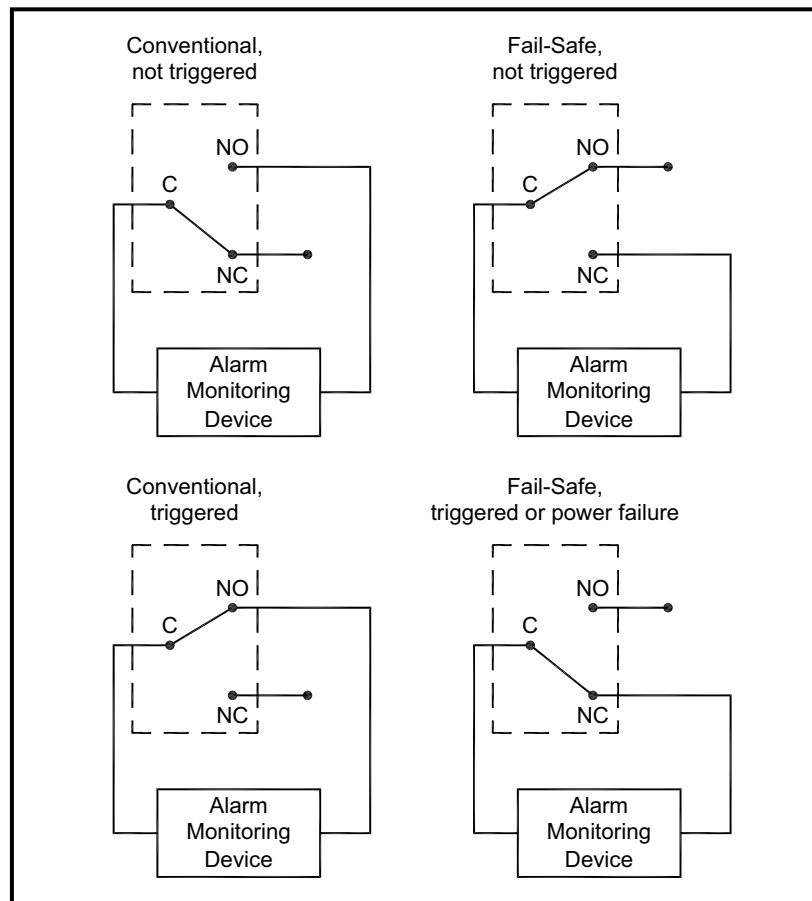
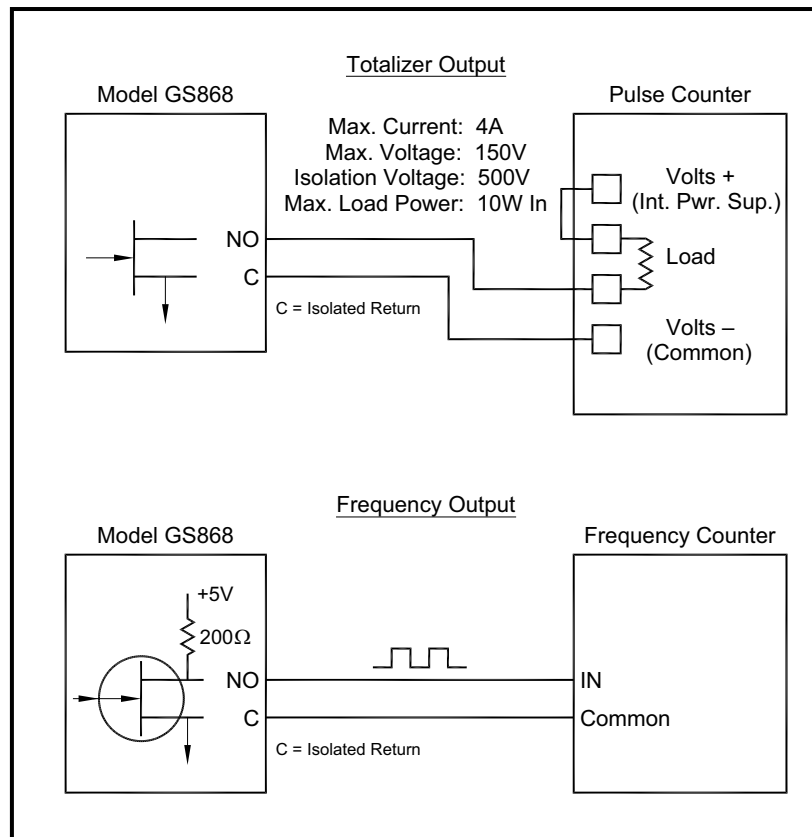
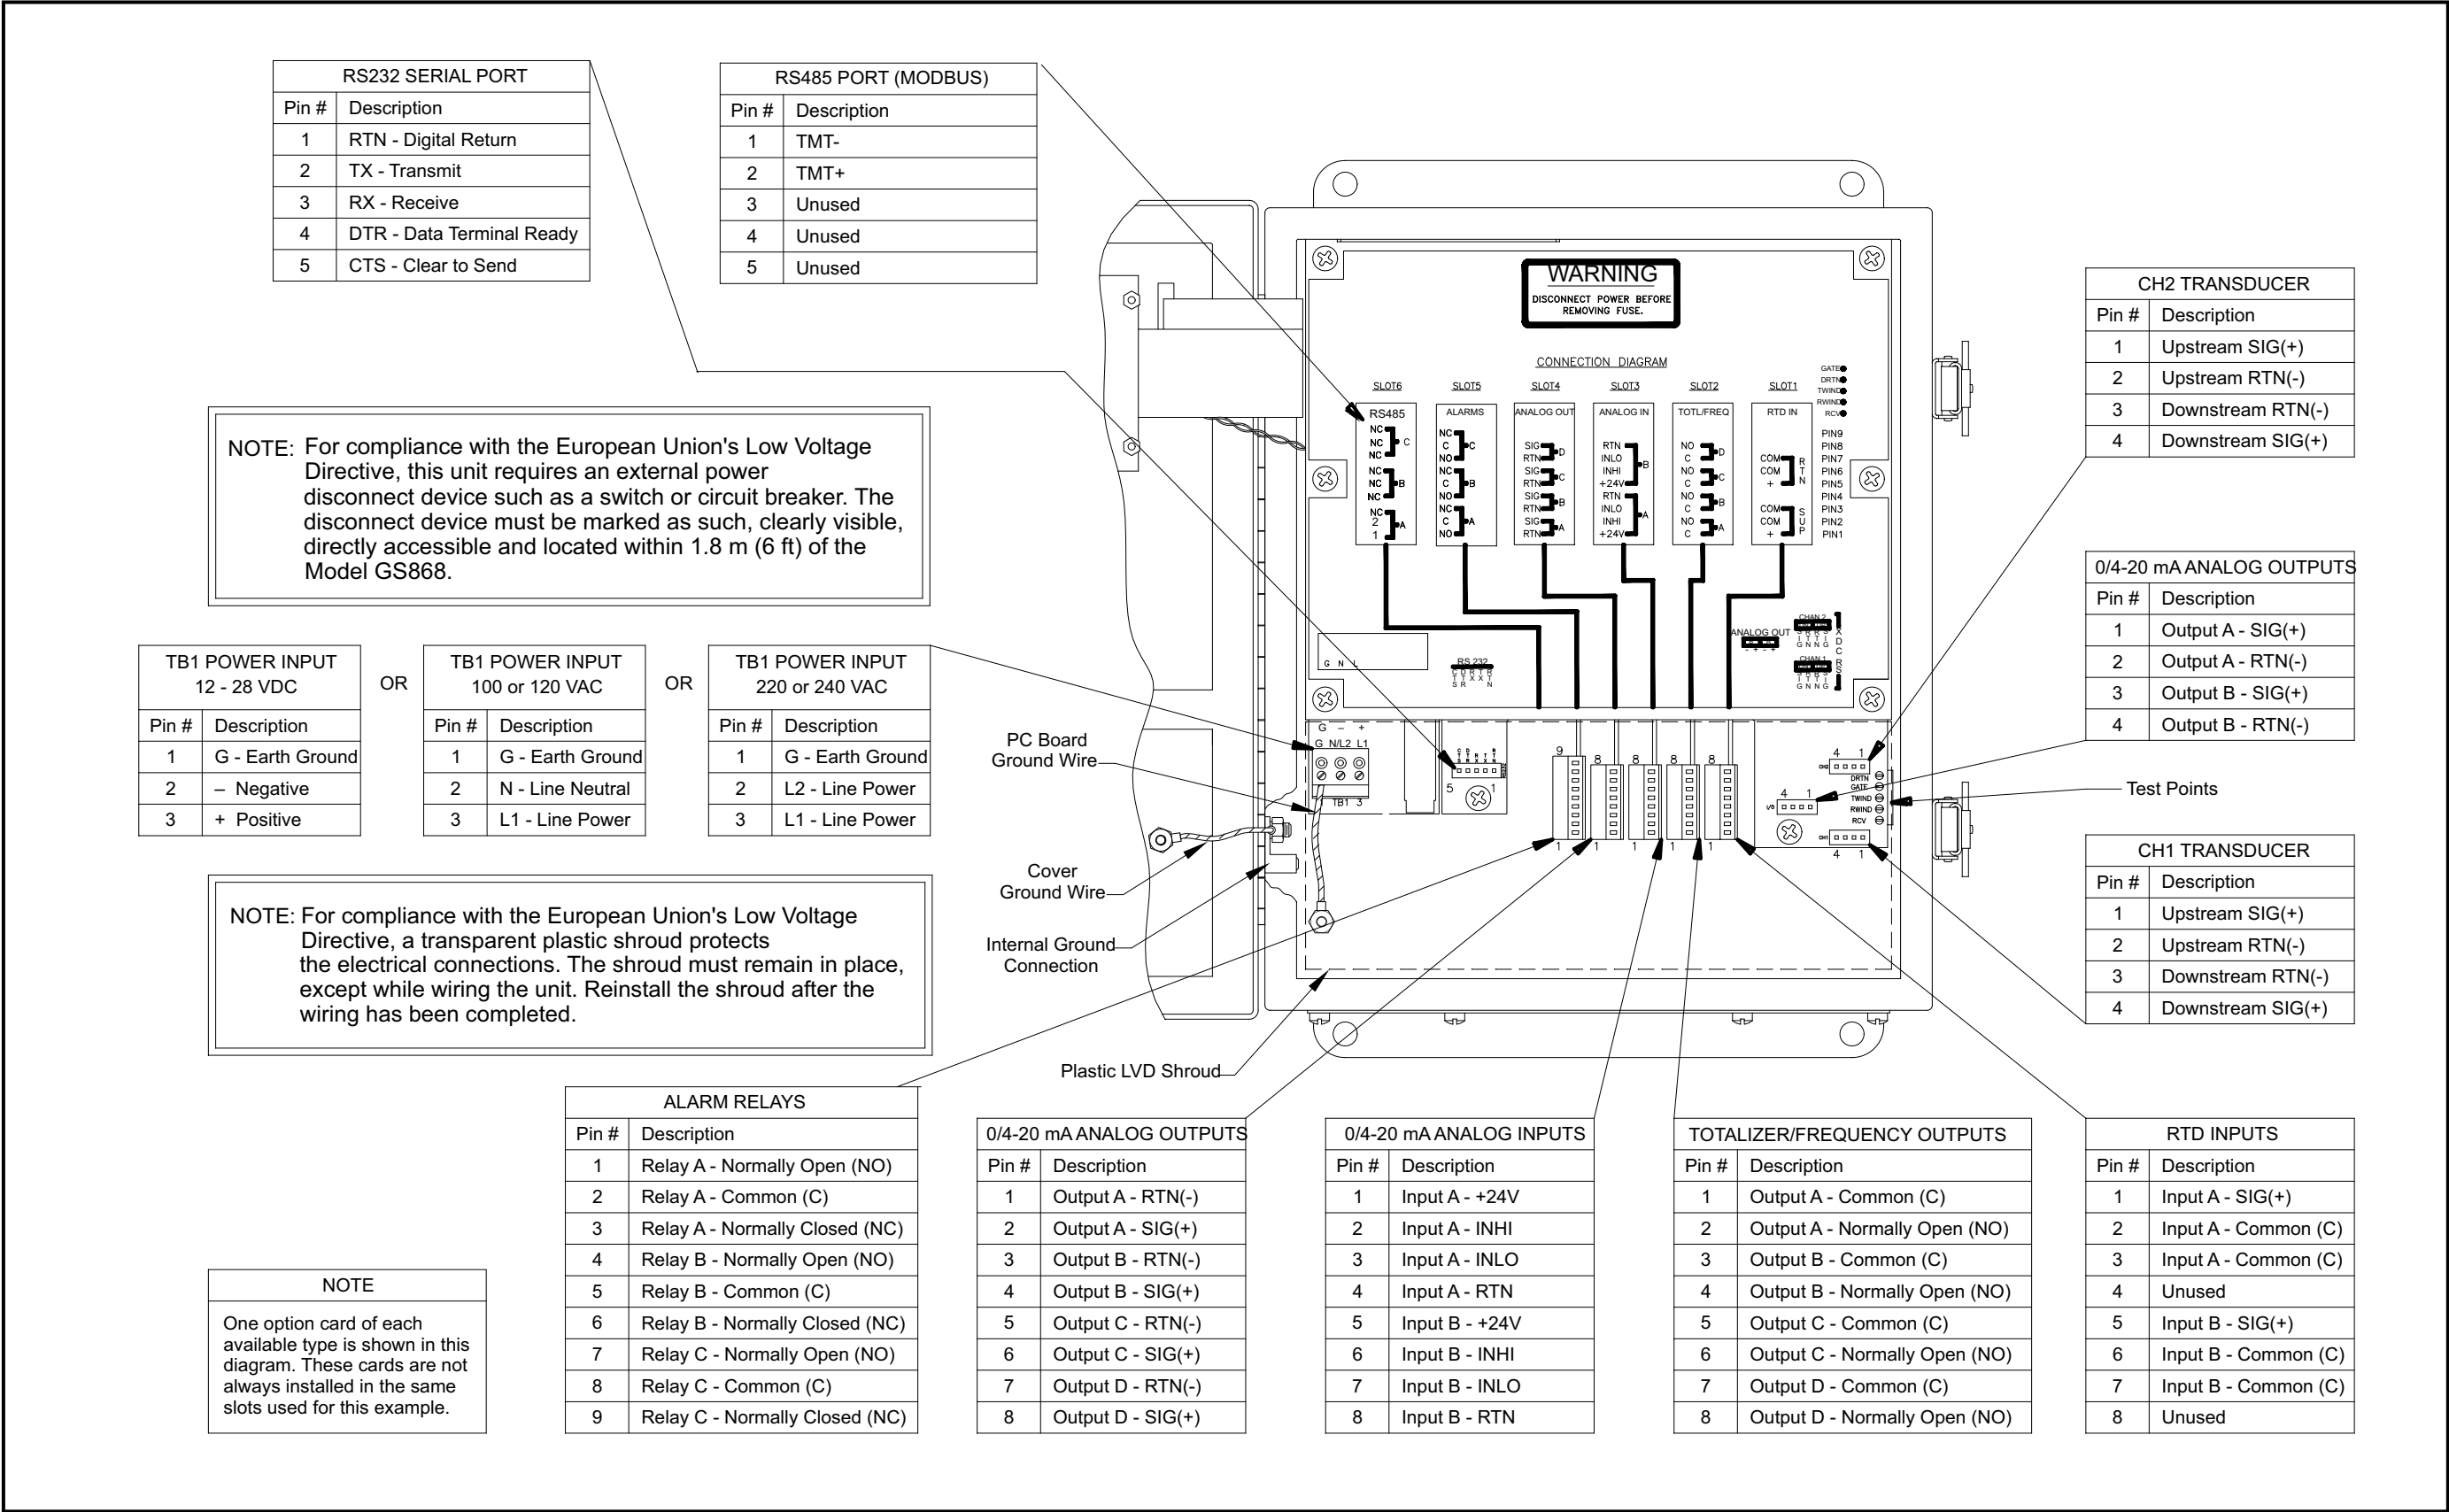

Figure 6: Conventional and Fail-Safe Operation
Figure 8: Totalizer/Frequency Outputs Wiring
Figure 10: Model GS868 Electronics Console Wiring (ref. dwg #702-213, sht 1 of 2)
3. Using the pair of coaxial cables with BNC to flying lead connectors supplied by the factory (or equivalent cables), connect the preamplifier to terminal block **CH1** in the electronics console. Refer to *Figure 10 on page 18* for the location of the terminal block and the terminal block pin assignments.
Refer to *Figure 10 on page 18* for the location of terminal block **I/O** and wire the terminal block as shown.
The RS232 serial interface is wired as Data Terminal Equipment (DTE), and the signals available at the Model GS868 **RS232** terminal block are shown in Table 1 below. Refer to *Figure 8 on page 14* to locate terminal block **RS232** and complete the following steps to wire the terminal:
To wire the RS485 serial port, refer to *Figure 10 on page 18* and complete the following steps:
In setting up an alarm relay, it may be wired for either *conventional* or *fail-safe* operation. In fail-safe mode, the alarm relay is constantly energized, except when it is triggered or a power failure or other interruption occurs. See *Figure 6* below for the operation of a NO alarm relay in both conventional and fail-safe mode.
Connect the two wires required for each alarm relay in accordance with the pin number assignments shown in *Figure 10* on page 18.
Wire the analog input terminal block in accordance with the pin number assignments shown in *Figure 10 on page 18*. The standard Model GS868 has at least one analog inputs option card, which is used to supply the live pressure reading required for accurate mass flow calculations. These option cards are identical to the temperature/pressure card described above and they should be wired in the same manner (see *Figure 6 on page 12*).
Each totalizer/frequency output requires two wires. Wire this terminal block in accordance with the pin number assignments shown in *Figure 10 on page 18*. *Figure 8* below shows sample wiring diagrams of a totalizer output circuit and a frequency output circuit.
The standard Model GS868 has at least one RTD inputs option card, which is used to supply the live temperature reading required for accurate mass flow calculations. Each RTD input requires three wires, which should be fed through one of the conduit holes on the bottom of the electronic console. Wire this terminal block in accordance with the pin number assignments shown in *Figure 10 on page 18*.
Connections to these outputs may be made with standard twisted-pair wiring. The total current loop impedance for these circuits must not exceed 1000 ohms. Wire this terminal block in accordance with the pin number assignments shown in *Figure 10 on page 18*.